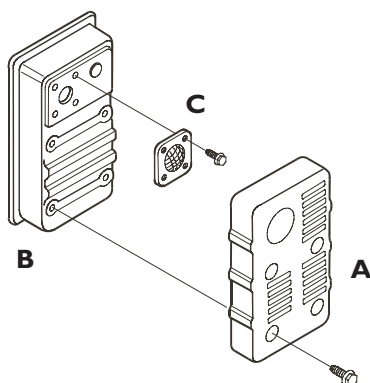

Figure 14 — Service Spark Arrester
1. To remove muffler heat shield (A) from muffler (B), remove four screws that connect guard to muffler bracket (Figure 14).